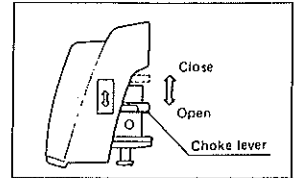

Fig. 3
- When restarting the engine (Which is still warm after refilling fuel), open the choke lever fully. (Fig. 3)